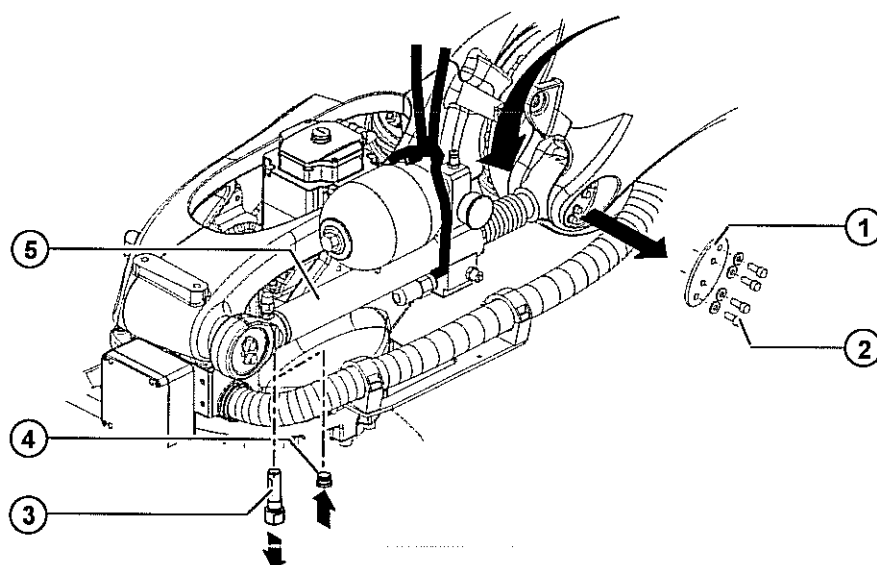

Fig. 12-26: Installing the counterbalancing system: link arm
19. Move the link arm in the plus direction until the locking pin is released, and unscrew the locking pin (>>> Fig. 12-26).